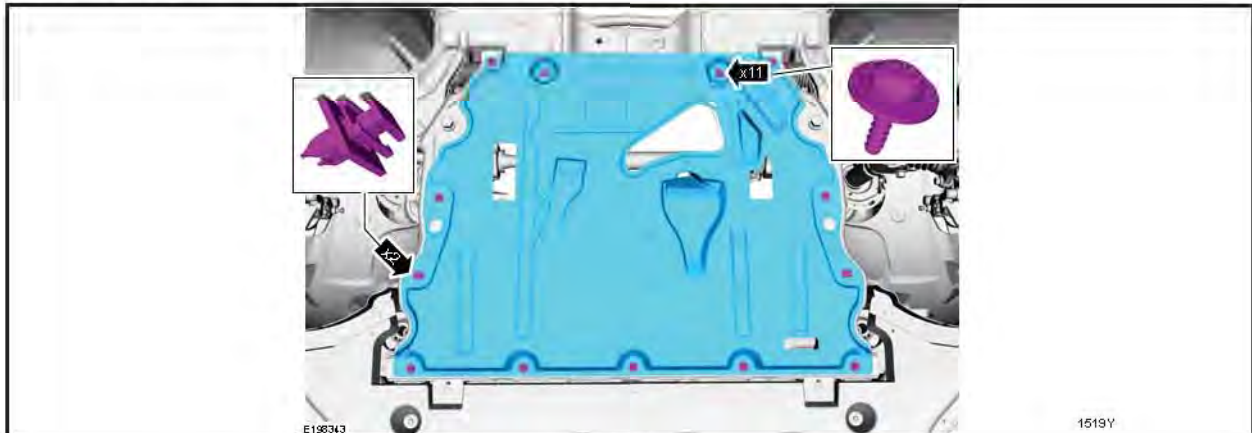

FIGURE 3
1. Remove the underbody shield. See Figure 3.
3. Install the underbody shield. See Figure 3.